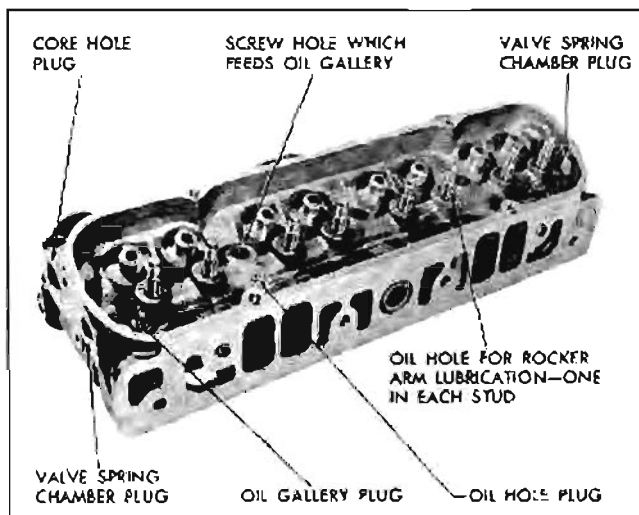

Fig. 6-29 Location of Oil Gallery Plugs
7. Remove plugs (Fig. 6-29) from ends of cylinder head oil gallery and thoroughly clean out metal deposits and foreign matter from oil gallery (head must be right side up so foreign material will not lodge in or around studs).
- c. Check oil passages from oil gallery through rocker arm studs. A simple test can be made using a rubber hose and smoke. Block lower end of cylinder head screw hole which feeds oil gallery (Fig. 6-29) and blow smoke in top end of hole through rubber hose. Smoke should come out hole in each stud.